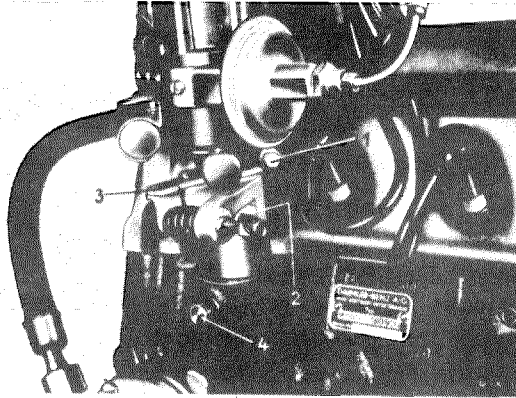

Fig. 01-4/47
The 1st version of the distributor bearing is shown in Fig. 01-4/47. Later, the distributor bearings were provided with a fixing lug (3) with which the bearing was fastened to the cylinder head by means of the hexagon socket screw (1) (Fig. 01-4/49); the stud screw (4) was no longer fitted (Fig. 01-4/47). Later, the octane number compensator on the instrument panel was dispensed with and the distributor bearing was modified to enable the distributor to be adjusted directly on the bearing by means of the adjusting screw (13) (Fig. 01-4/50).